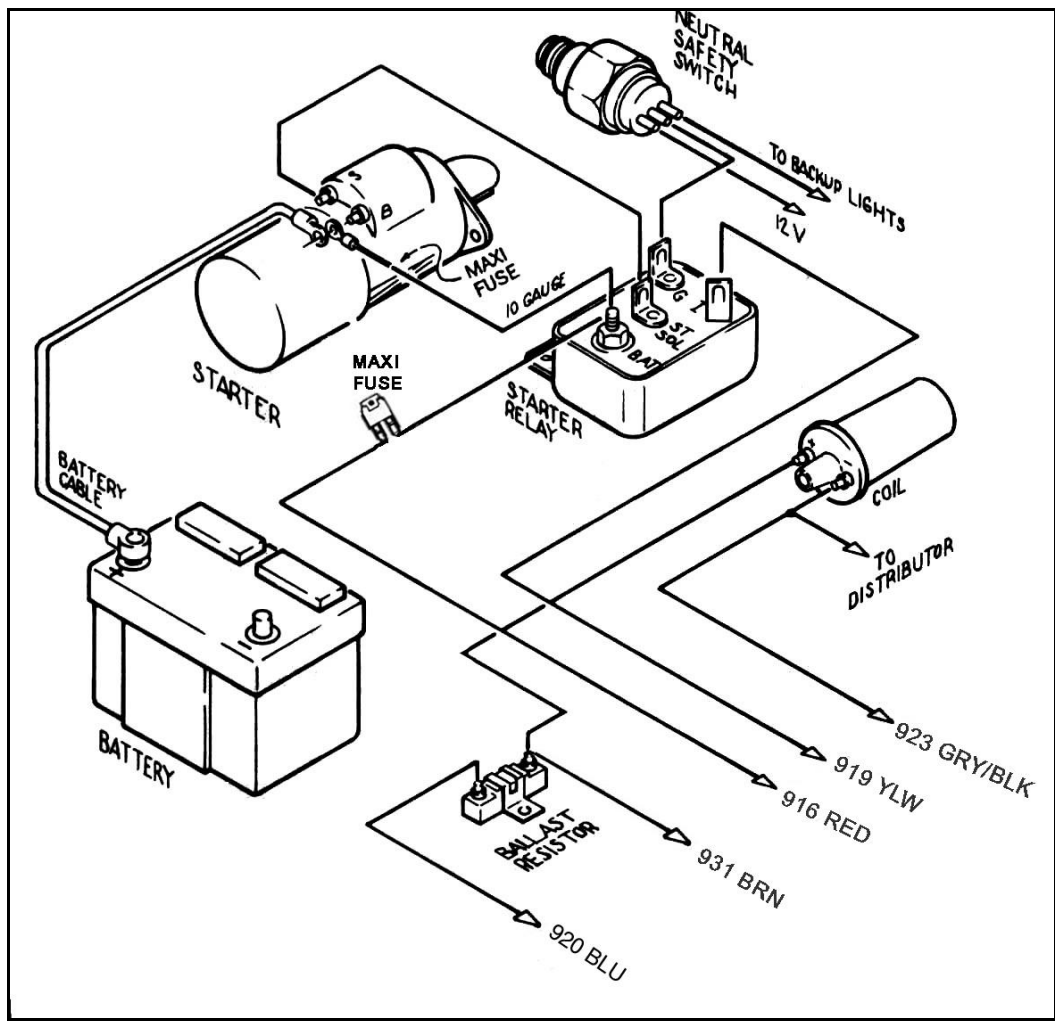

Figure 7-2A Mopar Ignition (Start/Run) System
7.2 Mopar Ignition (Start/Run) System. See Figure 7-2A
- 7.2.2** With crimping tool, attach the Maxi Fuse onto remaining length of red 10-gauge wire. It serves as a fuse to protect the entire harness. **DO NOT OMIT IT!** Connect this wire from the Starter Motor Battery terminal, as shown in **Figure 7-2A**. **USE ONLY 10-GAUGE WIRE or LARGER.**
- 7.2.4** Connect a 14-gauge wire from the Starter Relay Ground (G) terminal to the center terminal of the transmission mounted Neutral Safety Switch. Older Mopar neutral safety switches have only one terminal. On newer switches, the two outside terminals are for backup lights (see **Figure 7-2A**).
- 7.2.6** If you are using the Ballast Resistor, mount it away from other wiring or hoses. The ballast resistor gets very hot during operation. Connect ENGINE SECTION A wire #931 (BRN) to one end of the Ballast Resistor. Connect the other end of the ballast resistor to the Ignition Coil POSITIVE (+) terminal with 14-gauge wire (you may have enough BROWN wire left over to accomplish this). If you are not using a Ballast Resistor, connect wire #931 directly to the Ignition Coil B+ terminal. Wire #920 (BLU) will connect to the other side of the ballast resistor. **Figure 7-2A**